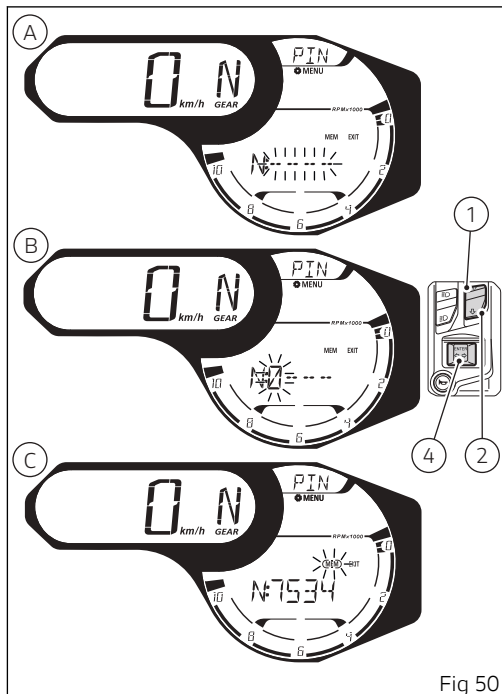

Fig 50
When you press button (4) to confirm the fourth and last digit, the MEM item frame (C, Fig 50) is flashing. Now you can use buttons (1) and (2) to do the following:
- select "EXIT" (flashing frame) and press button (4) to quit without saving the PIN CODE;
- select every figure (flashing) of the set code and press button (4) to edit them and repeat the code entry procedure;
- select "MEM" (flashing frame) (C, Fig 50) and press button (4) to save the new PIN CODE. The instrument panel will then show "MEM OK" for 2 seconds, then will show "EXIT" with flashing frame. To quit, press button (4).